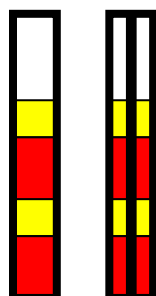

Figure 4-2.
- c. Vehicle travel or digging in Seibert stake areas is prohibited but foot traffic is allowed in most of these areas. Seibert stakes are used to mark and protect environmentally and culturally sensitive areas and warn of hazards. Seibert stakes are mounted on fence posts and are identified by alternating red and yellow bands with a single white band at the top. The protection side of Seibert stakes are identified by a narrow vertical black band extending the full length of each stake (see Figure 4-2). All vehicles are to remain on the opposite side of the black band.